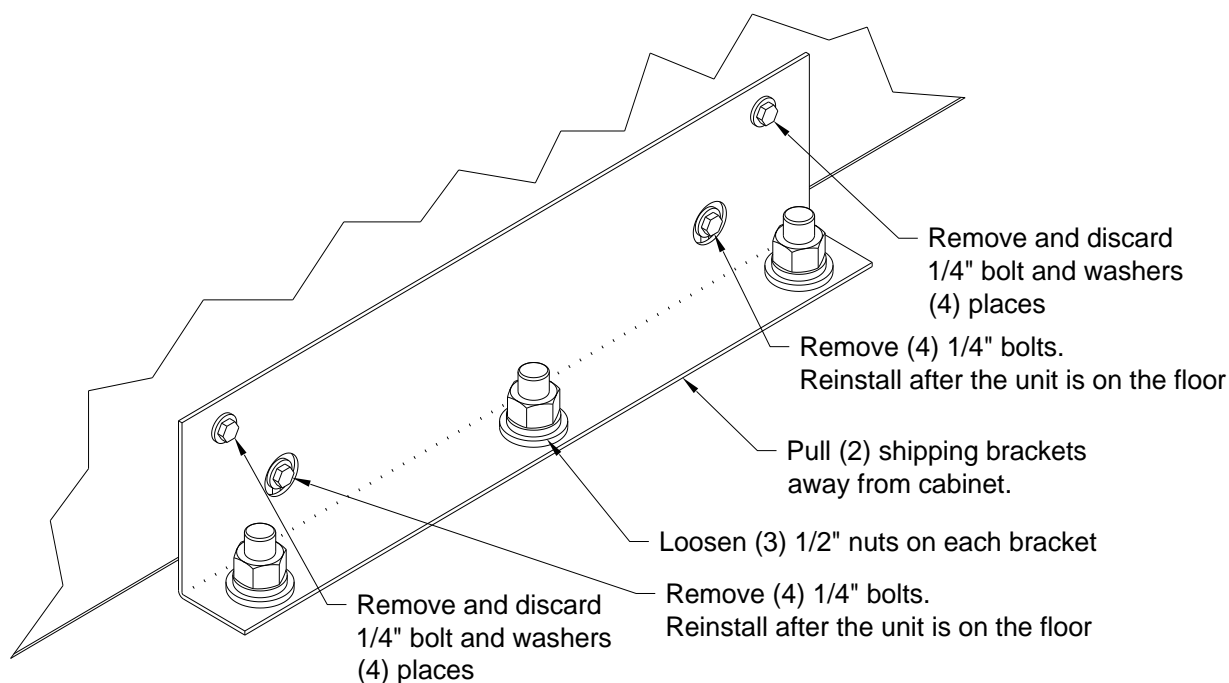

Figure 3-Shipping Bracket
9. Reinstall the front cover and add (4) 1/4" bolts and washers (see figure 3).